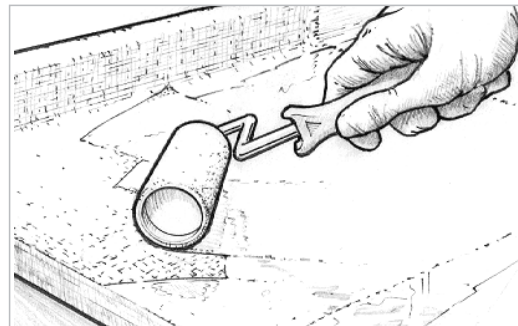

Figure 5-22 Apply the first coat of unthickened epoxy to fill the weave of the cloth before the wet-out coat reaches its final cure phase.
9. Coat the surface to fill the weave before the wet-out reaches its final cure stage (*Figure 5-22*). Follow the procedures for epoxy barrier coating under Section 5.5. It will take two or three coats to completely fill the weave of the cloth and to allow for a final sanding that will not affect the cloth.